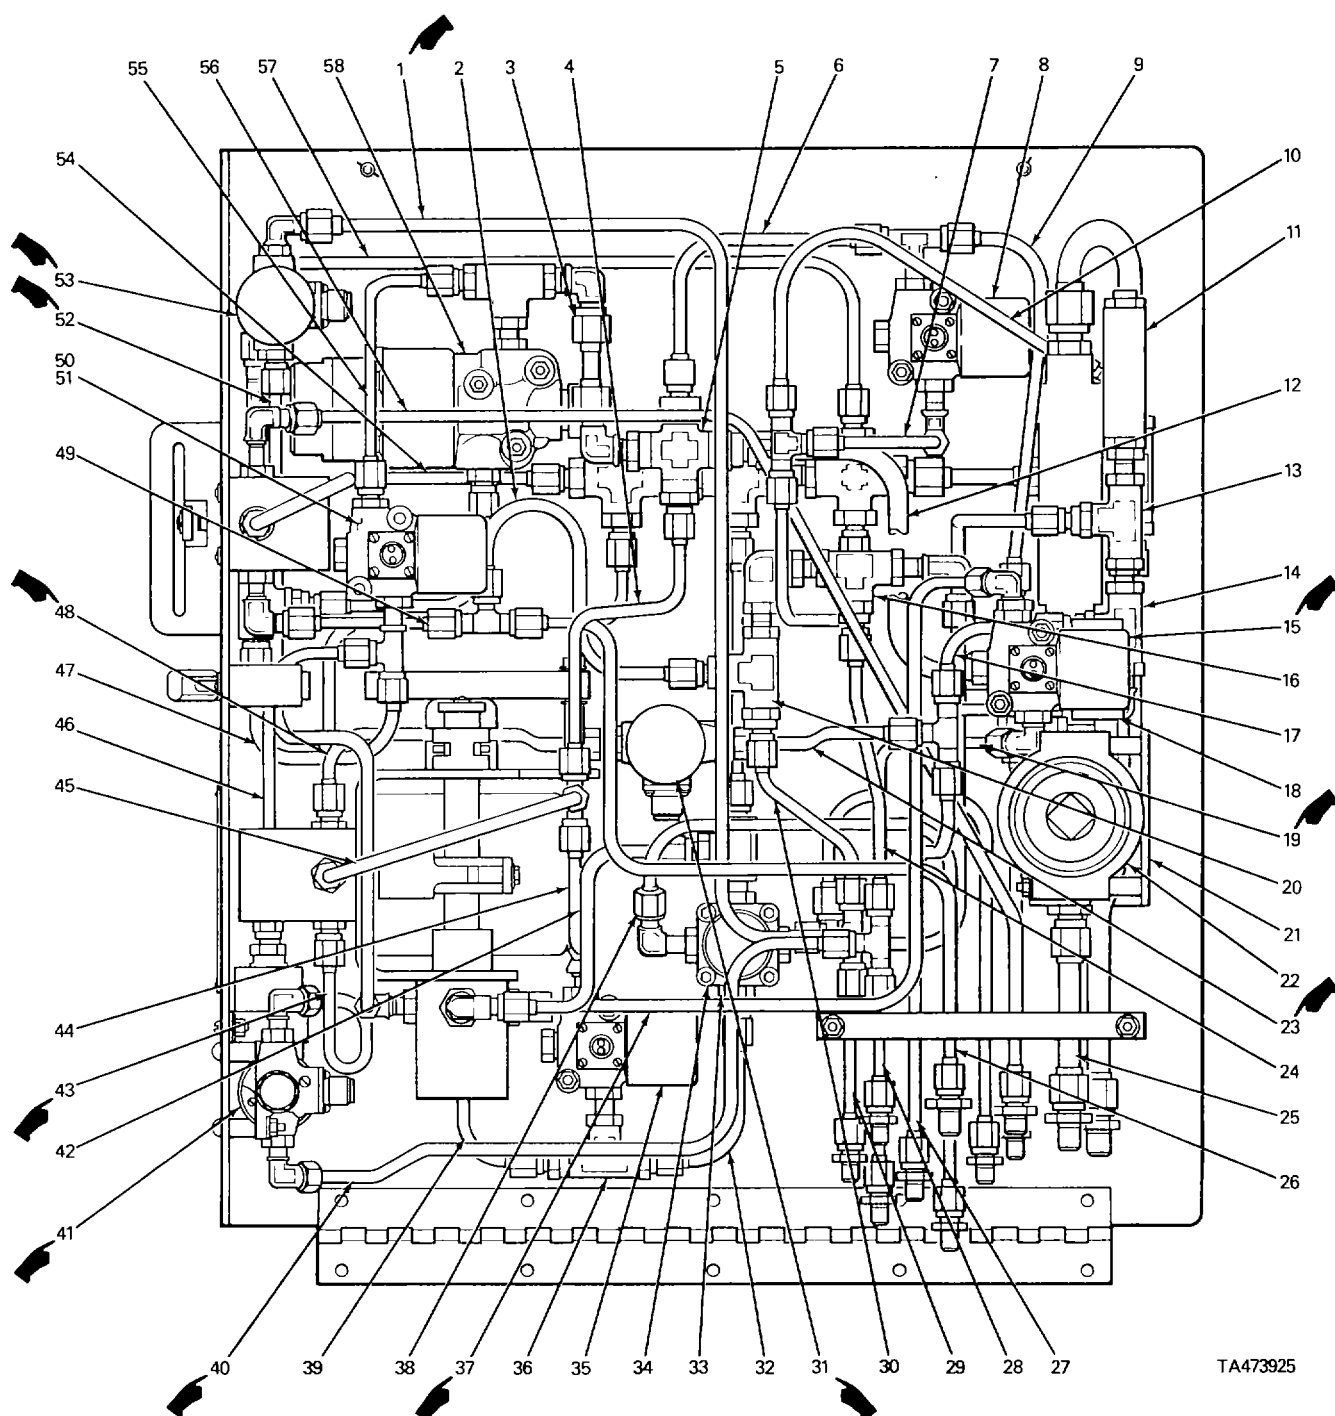
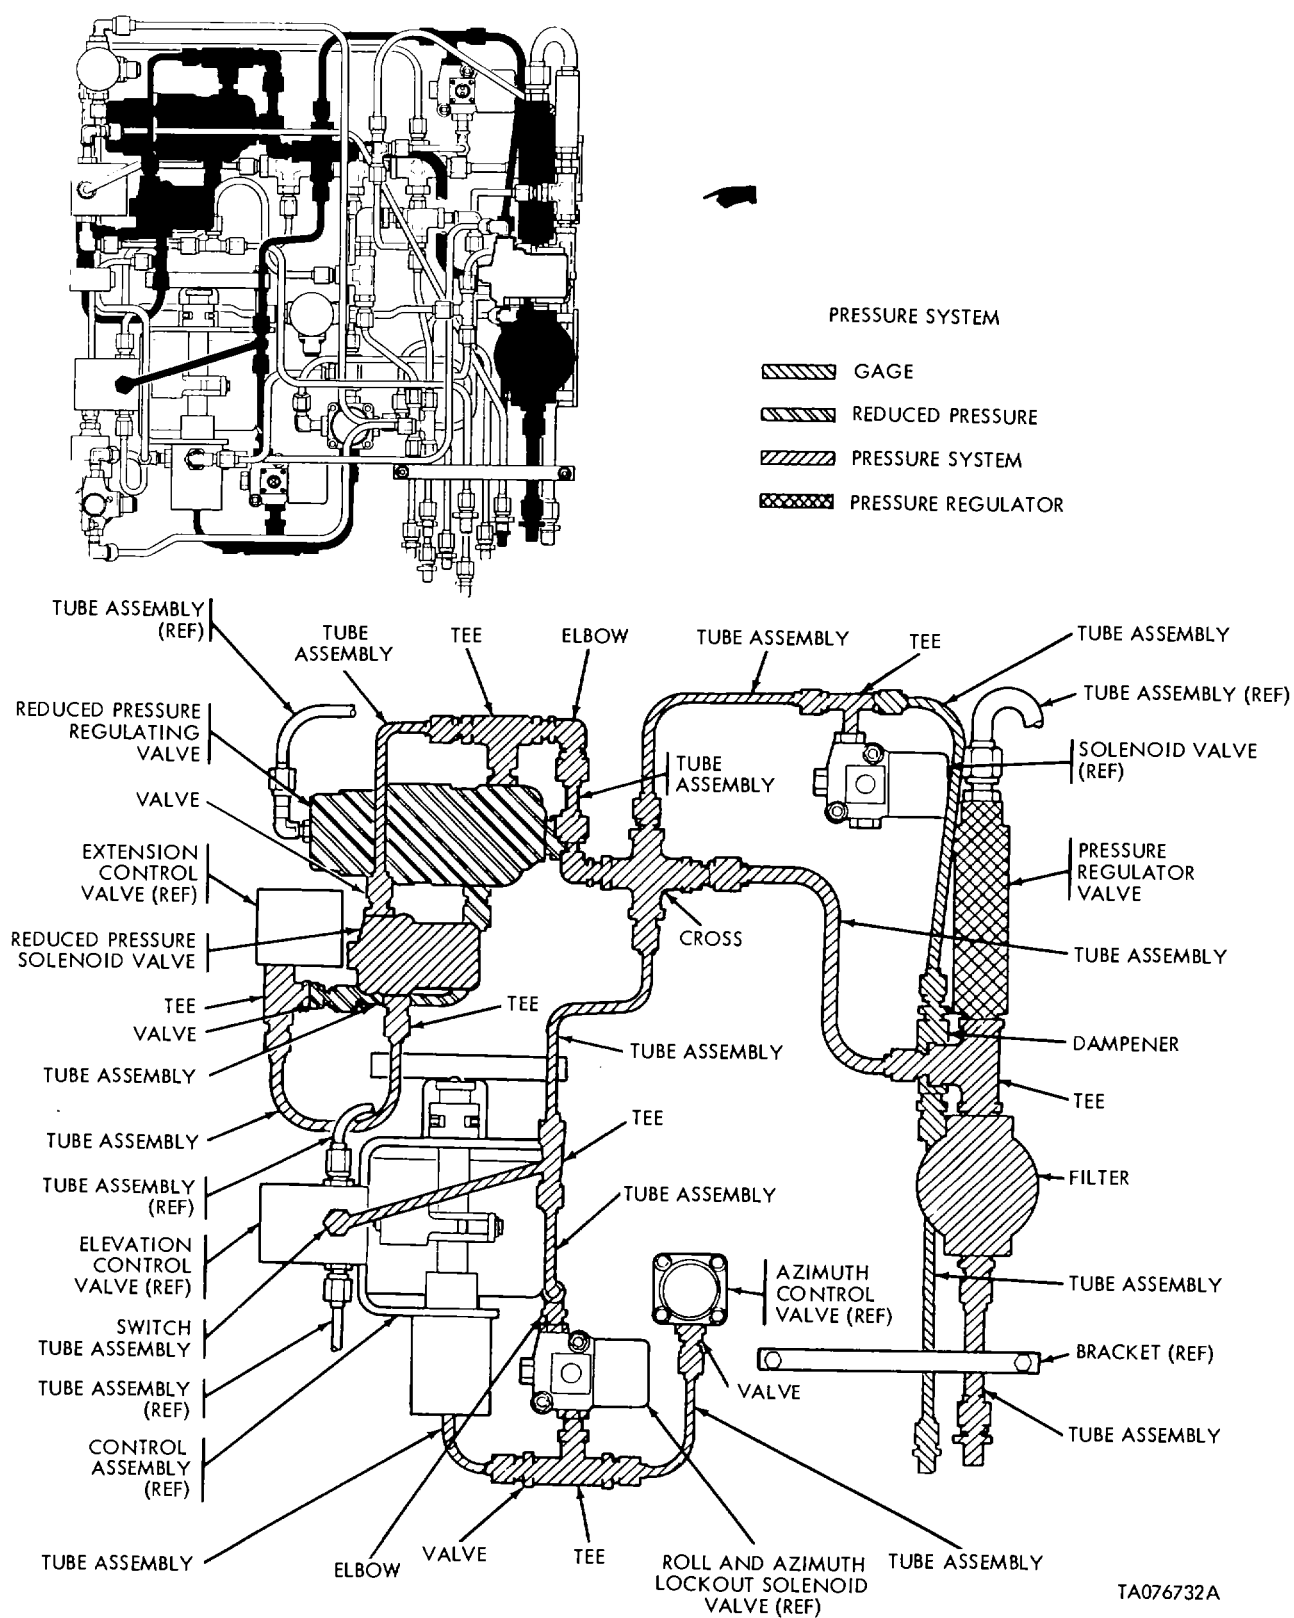

Figure 3-36. Hydraulic Control Console - Bottom View (Sheet 1 of 2)
Figure 3-37. Hydraulic Control Console - Pressure System Flow Diagram
- a. General. Figure 3-36 shows the hydraulic controls console in the open position and identifies each major interior component. Refer to this illustration for general orientation and identification of parts during disassembly and assembly procedures. Figures 3-37 through 3-43 respectively, isolate the pressure, return, roll, elevation, extension, azimuth, and thermal relief systems of the hydraulic console. Refer to these figures for specific orientation of parts installed in each of the systems. Complete disassembly procedures for the hydraulic controls console assembly are not provided.